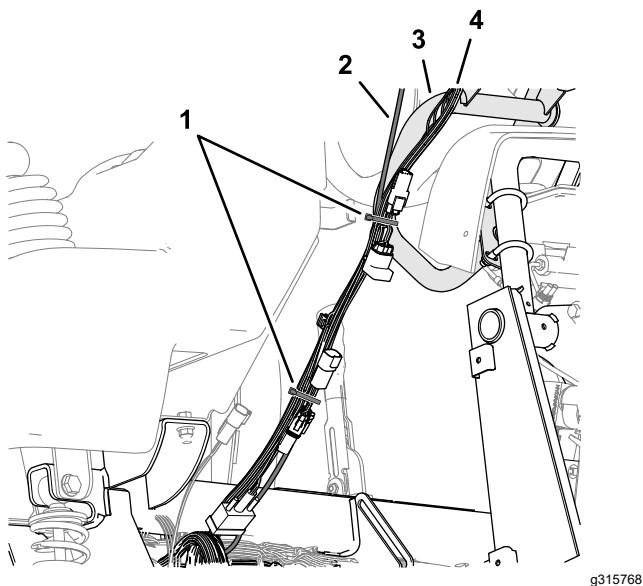

Figure 71
3. Secure the modem-data harness and the navigation-data and electrical harness to the monitor tube with a cable tie (Figure 71).
4. Secure the modem-data harness to the navigation-data and electrical harness with a cable tie as shown in Figure 71.